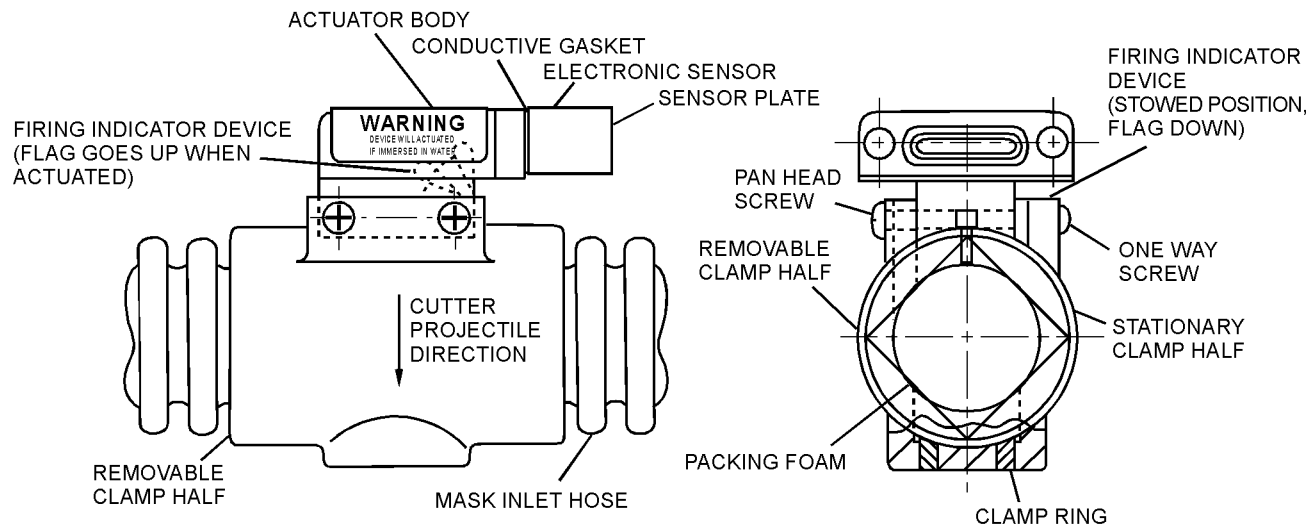

Figure 7-1. Cartridge Actuated Cutter
7-2. The Cartridge Actuated Cutter (NSN 1377-01-492-4305) (figure 7-1) is commonly known as the Passive Anti-Suffocation Device (PASD). It is a battery operated, cartridge actuated device used to provide a breathing air passage for an unconscious aircrewmember forced down over water while wearing an A/P22P-14(V) Chemical Protective Respirator Assembly.
3. Remove the Cartridge Actuated Cutter from the container. Place the device on the work surface and review figure 7-1 to identify and orient components of the Cutter.
7-14. Maintenance is limited to inspection and cleaning. The surface of the actuator body gasket and the sensor plate as shown in Figure 7-1 are conductive surfaces required for completing an electrical path to provide proper functioning of the Cartridge Actuated Cutter during immersion. These surfaces shall be kept clean at all times.